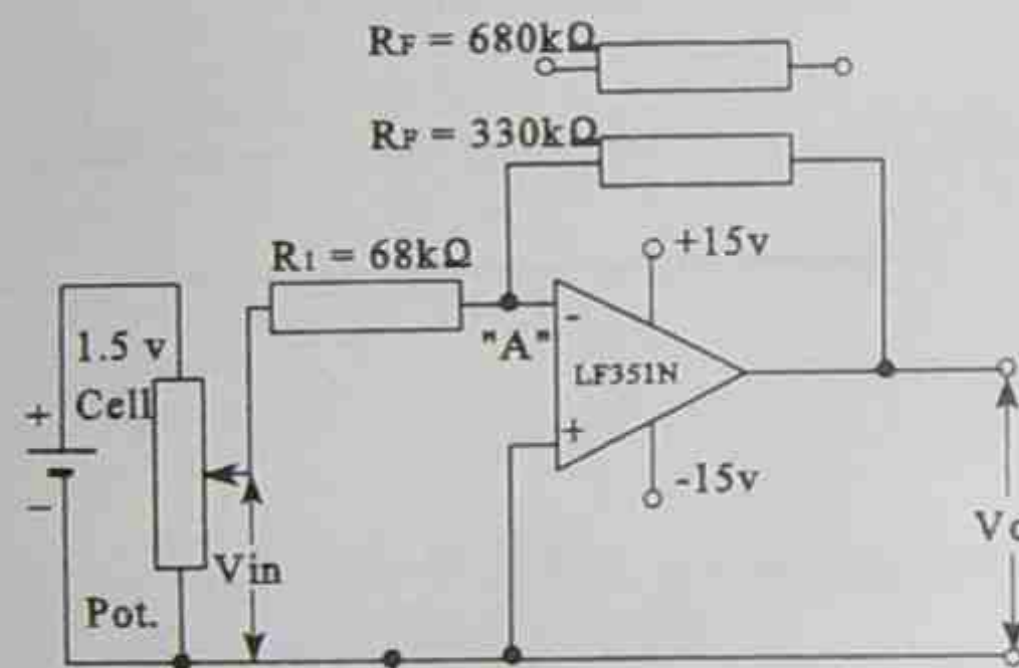

Figure 1
- Connect up the circuit as shown in Figure 1.
(b) Connect up the circuit as shown in Figure 1 below.